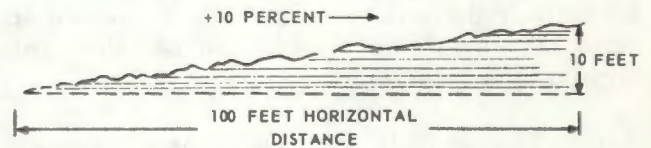

Figure 7-3. Percent of slope.
a. *Slope of Entrances and Exits.* Gently sloping entrances and exits are desirable. However, even on the most gradual slopes, the Vulcan vehicle must enter the water slowly (approximately 2 mph) to avoid a large bow wave. When descending banks, the vehicle tends to dive unless the approach is slow enough to allow the bow to float. The most common way to express slope is in percent (fig. 7-3). For example, a 1 percent slope rises or descends 1 foot in 100 feet of horizontal distance; a 10 percent slope rises or descends 10 feet in 100 feet. The formula to determine percent of slope is—